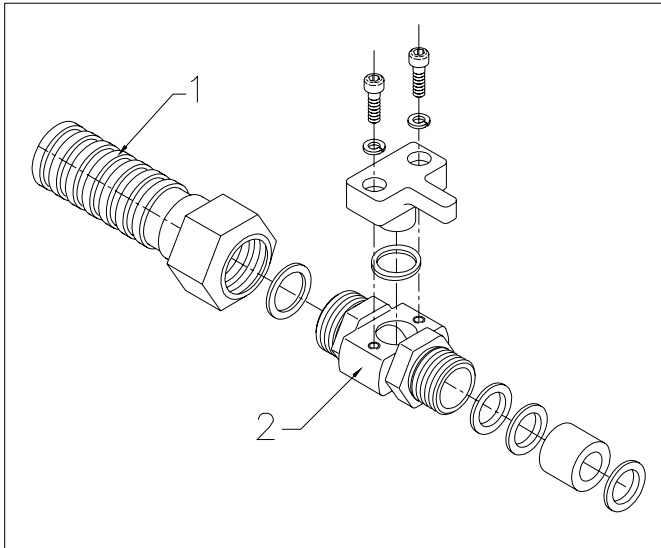

Fig. 9.3
When chemical or mechanical protection for the cable is needed a tube can be fitted around the cable (Fig. 9.3 pos 1).
This is a flexible stainless steel tube (1) connected to a special cable entry (Fig.9.3 pos 2).